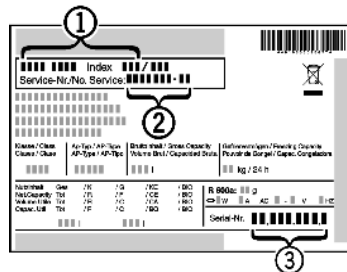

Fig. 15
- ▶ Read the appliance designation Fig. 15 (1), service No. Fig. 15 (2) and serial No. Fig. 15 (3) off the type plate located inside the appliance on the left-hand side.
- ▶ Notify the customer service, specifying the fault, appliance designation Fig. 15 (1), service No. Fig. 15 (2) and serial No. Fig. 15 (3).